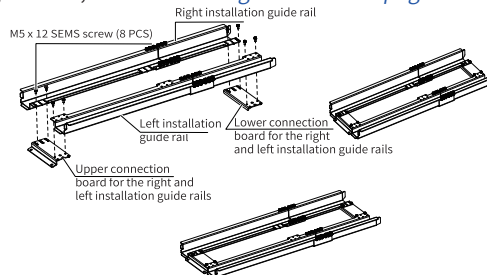

Figure 1-11 Assembling guide rails
a. Assemble the guide rail, as shown in *"Figure 1-11 " on page 25 .*